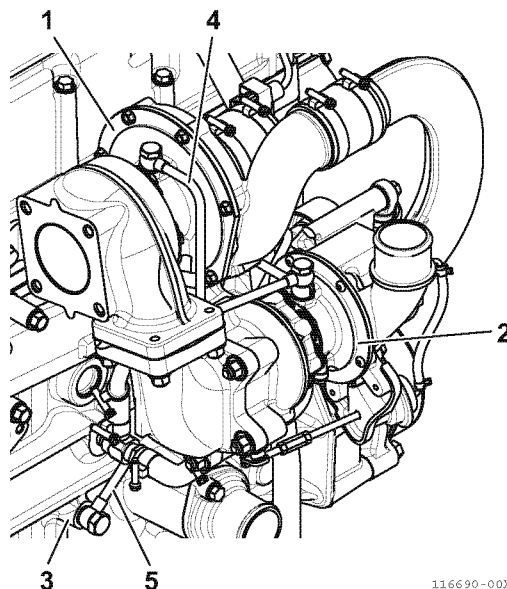

Fig.24-22
- 10 - Install the lubricating oil supply pipe (4 and 5, Fig.24-22) onto the low-pressure stage turbocharger (1, Fig.24-22), high-pressure stage turbocharger (2, Fig.24-22), and cylinder block (3, Fig.24-22). Replace the packing of the lubricating oil supply pipe joint with new one.